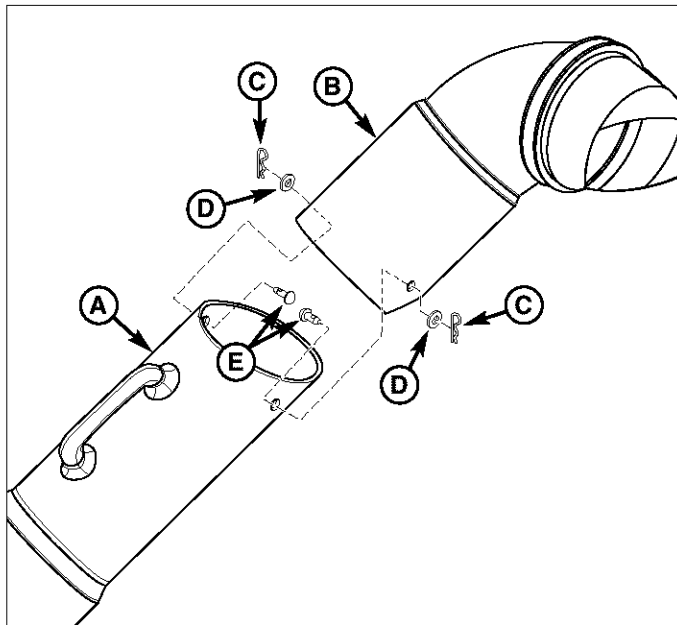

Figure 7. Assemble Bagger Tubes
1. Attach upper tube (B, Figure 7) to middle tube (A) using clevis pins (E) as shown. Secure with washers (D) and hair pins (C).
2. Reach through upper tube (B) to insert clevis pins (E).